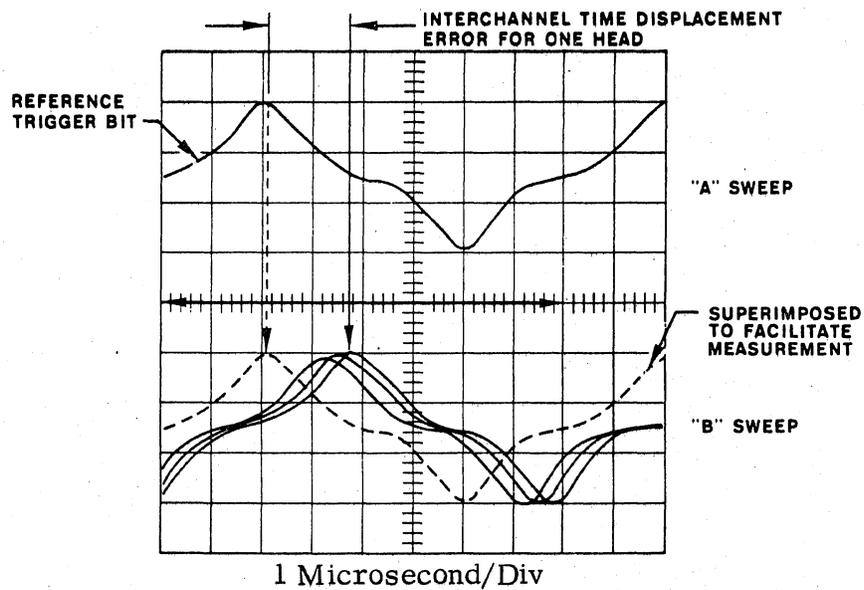

Figure 5-13
- Step 3: Press the FORWARD pushbutton. A display such as is shown in Figure 5-13 should appear on the oscilloscope.